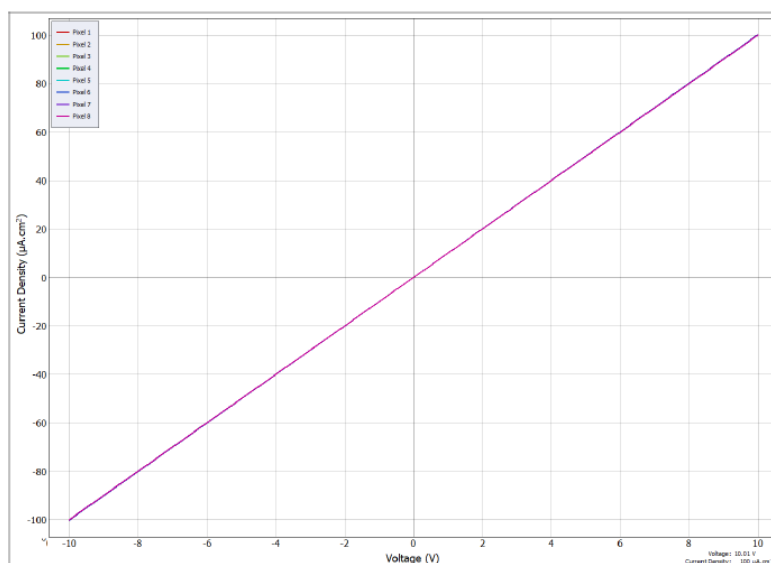

Figure 10.3. Example measurement of resistor test device using the 200 μA current range.
- The system should measure straight line resistor responses from -100 $\mu\text{A.cm}^{-2}$ to 100 $\mu\text{A.cm}^{-2}$ (or -20 $\mu\text{A.cm}^{-2}$ to 20 $\mu\text{A.cm}^{-2}$ for the 20 μA current range) as shown in Figure 10.3.